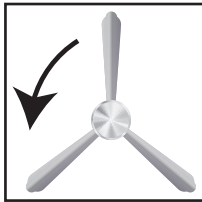

Figure 5.2
2. Push the door closed and rotate the handle to the left (counter clockwise) to extend the locking bolts and lock the safe (Figures 5.2 & 5.3).